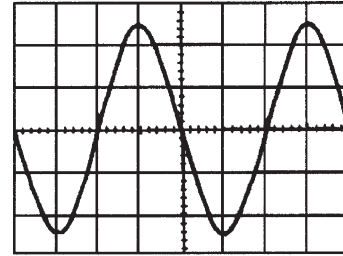

Figure RT3.1
1. A conductor, 25 cm long, is situated at right-angles to a magnetic field. Determine the strength of the magnetic field if a current of 12 A in the conductor produces a force on it of 4.5 N. (3)
2. An electron in a television tube has a charge of 1.5×10^{-19} C and travels at 3×10^7 m/s perpendicular to a field of flux density $20 \mu\text{T}$. Calculate the force exerted on the electron in the field. (3)
3. A lorry is travelling at 100 km/h. Assuming the vertical component of the Earth's magnetic field is $40 \mu\text{T}$ and the back axle of the lorry is 1.98 m, find the e.m.f. generated in the axle due to motion. (4)
4. An e.m.f. of 2.5 kV is induced in a coil when a current of 2 A collapses to zero in 5 ms. Calculate the inductance of the coil. (4)
5. Two coils, P and Q , have a mutual inductance of 100 mH. If a current of 3 A in coil P is reversed in 20 ms, determine (a) the average e.m.f. induced in coil Q and (b) the flux change linked with coil Q if it is wound with 200 turns. (5)
6. A moving coil instrument gives an f.s.d. when the current is 50 mA and has a resistance of 40Ω . Determine the value of resistance required to enable the instrument to be used (a) as a 0–5 A ammeter and (b) as a 0–200 V voltmeter. State the mode of connection in each case. (8)
7. An amplifier has a gain of 20 dB. Its input power is 5 mW. Calculate its output power. (3)
8. A sinusoidal voltage trace displayed on an oscilloscope is shown in Fig. RT3.1; the 'time/cm' switch is on 50 ms and the 'volts/cm' switch is on 2 V/cm. Determine for the waveform (a) the frequency, (b) the peak-to-peak voltage, (c) the amplitude, (d) the r.m.s. value. (7)
9. With reference to a p–n junction, briefly explain the following terms: (a) majority carriers, (b) contact potential, (c) depletion layer, (d) forward bias, (e) reverse bias. (10)
10. Briefly describe each of the following, drawing their circuit diagram symbol and stating typical applications: (a) Zener diode, (b) silicon controlled rectifier, (c) light emitting diode, (d) varactor diode, (e) Schottky diode. (20)